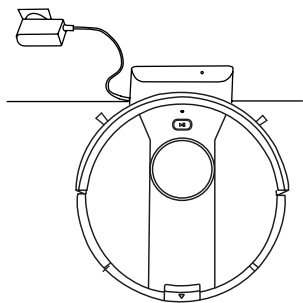

Figure 1
- Using the home base (Figure 1).